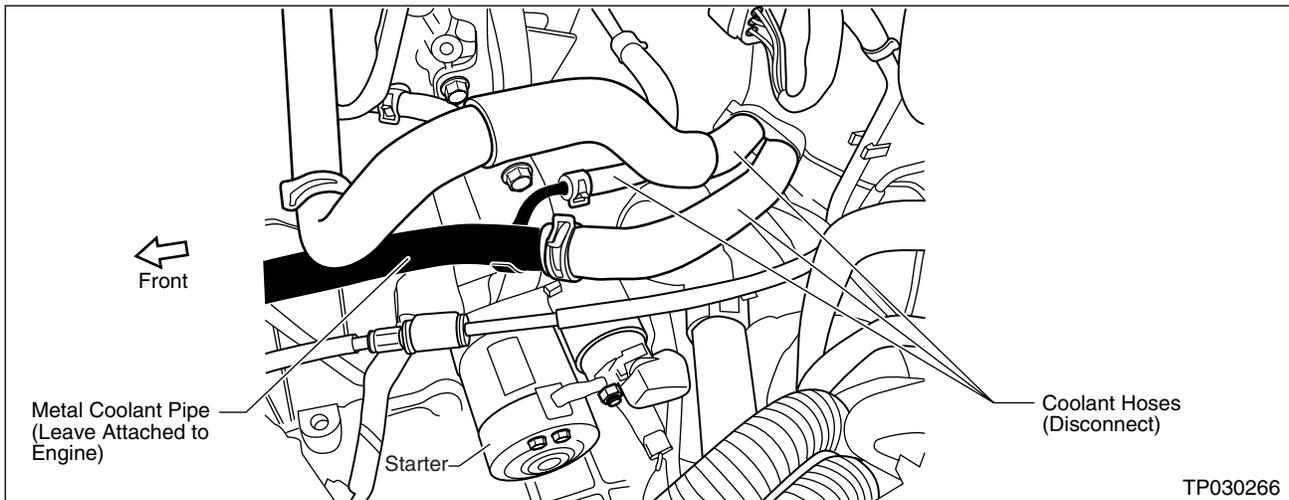

Figure H7
- Disconnect the Coolant Hoses from the Metal Coolant Pipe, but leave the metal pipe on the engine (see Figure H7).